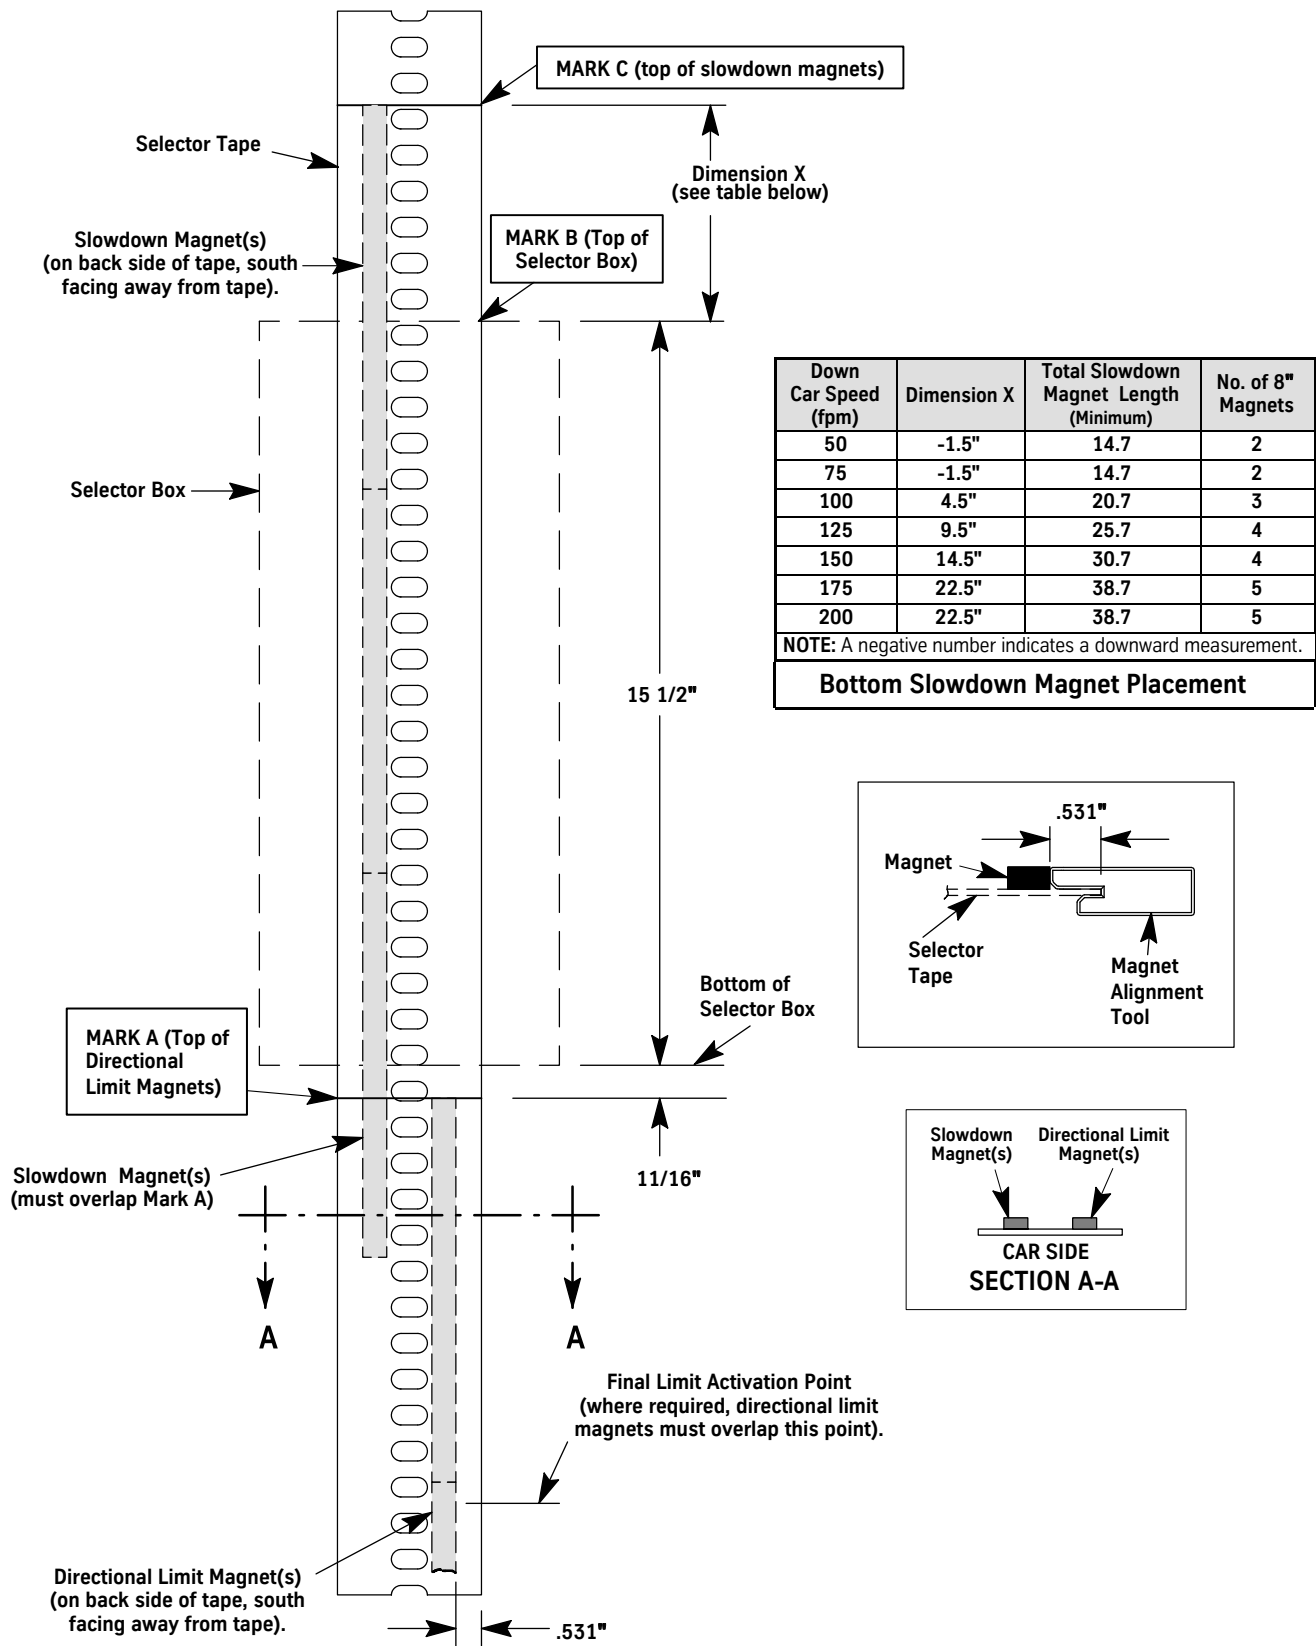

Figure 21 - Bottom Slowdown and Directional Limit Magnets (viewed from car side)
2. From the bottom of the selector box, measure down 11/16" and mark the tape with a marker (this is Mark A). See Figure 21 on page 46 for all steps in the bottom magnet placement procedures.